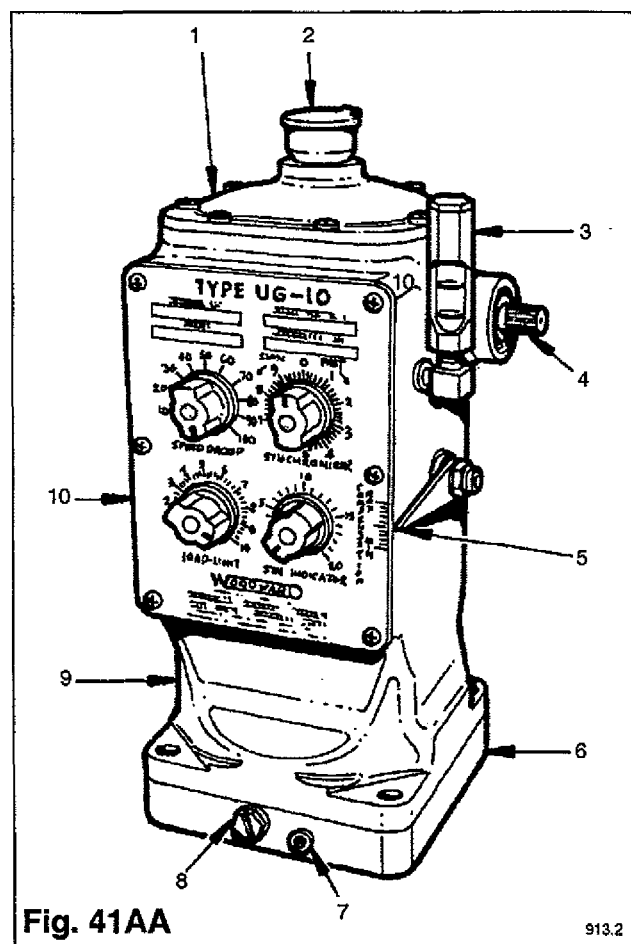
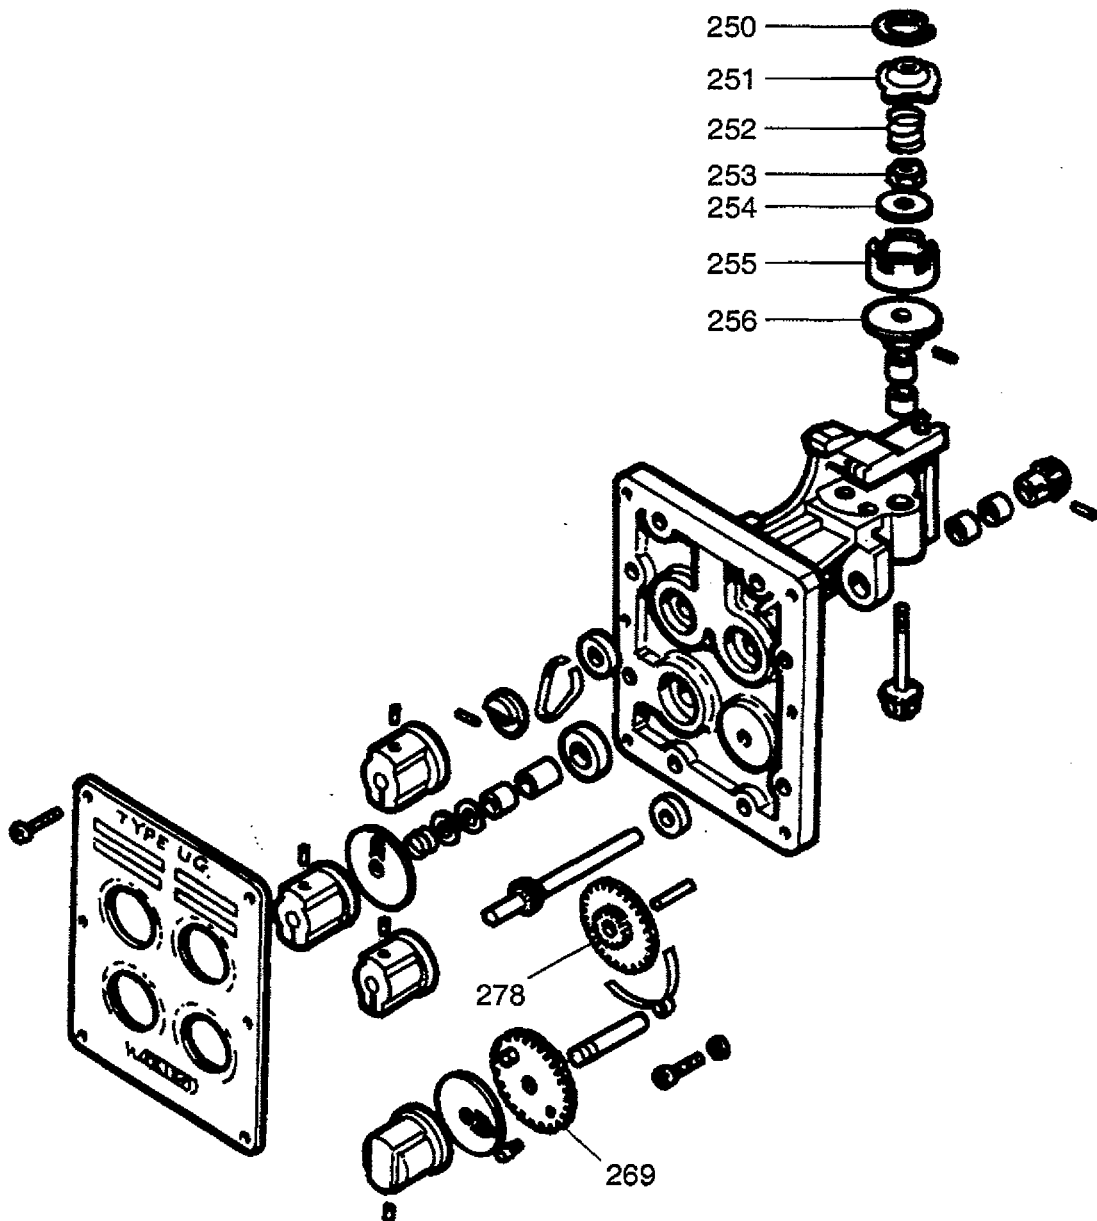

Fig. 41AA
Fig. 44AA
(Fig. 41AA)
- 10 To prevent speed setting changes because of engine vibrations, a friction drive (250-256) is installed in the speed setting mechanical drive of the UG Governor. (See Fig. 44AA).
To adjust the friction on the friction drive, first remove the governor cover (219) see Fig. 41AA then the retaining ring (250) see Fig. 44AA on the friction drive using No.1 Truarc pliers. Do not let the friction cover (251) or the spring (252) fall into the governor as the friction drive cover is under spring compression.
- 12 Set the maximum and/or minimum speed limit on the governor. This adjustment can also be made with the engine running. To make the adjustment, first remove the governor dial plate (see Fig. 44AA)
(Fig. 44AA)